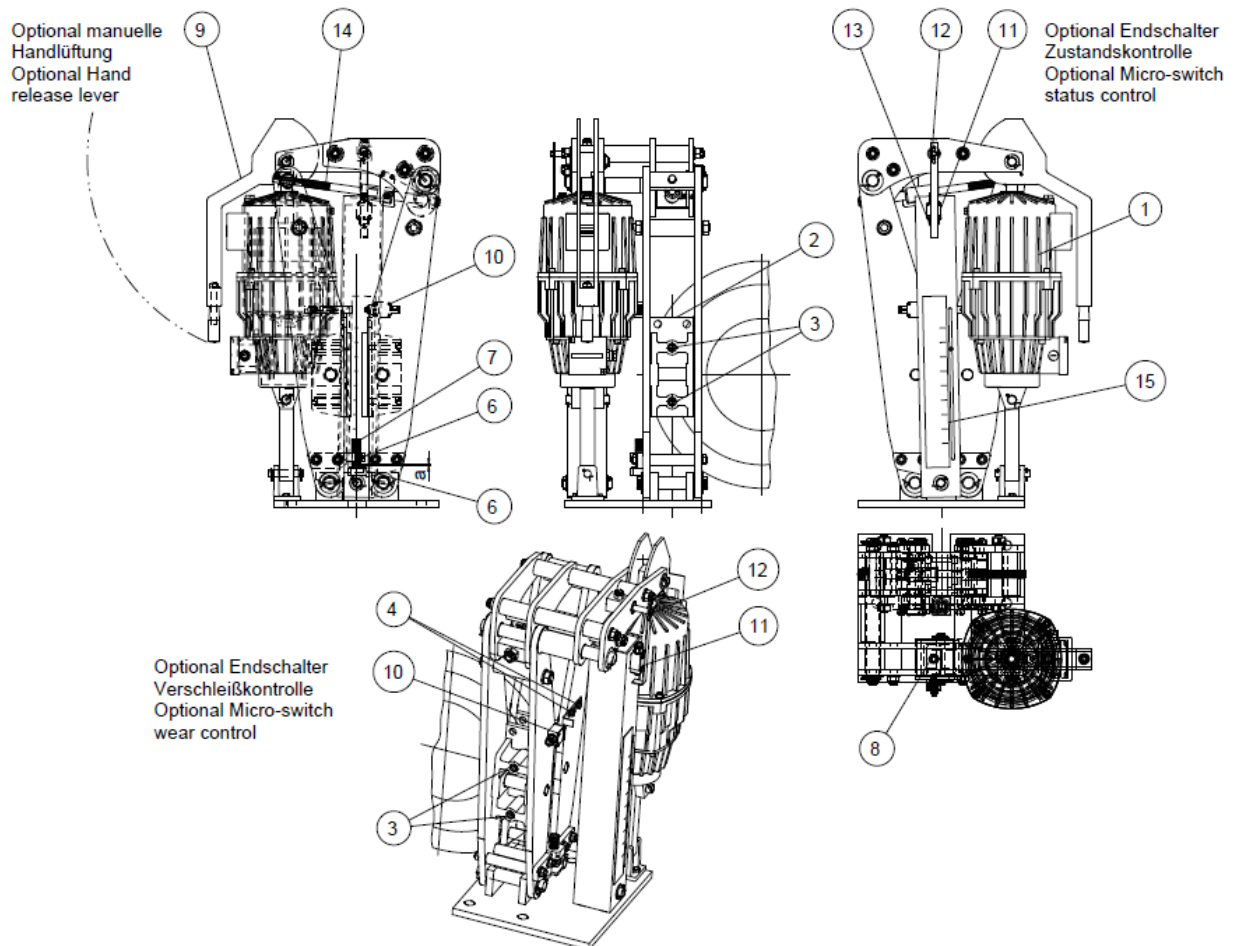

Fig. 2.1
The brake pad distance is set after the brake calliper has been assembled and after pad wear through adjusting / readjusting, see Fig. 2.1.
The setting/adjusting process of the FEM version manually brake has to be carried out with the adjusting spindle item 14 and the two adjusting screws item 7, shown in Fig. 2.1.
The setting/adjusting process of the FEA version automatic brake has to be carried out only by using the two adjusting screw item 7, shown in Fig. 2.1.